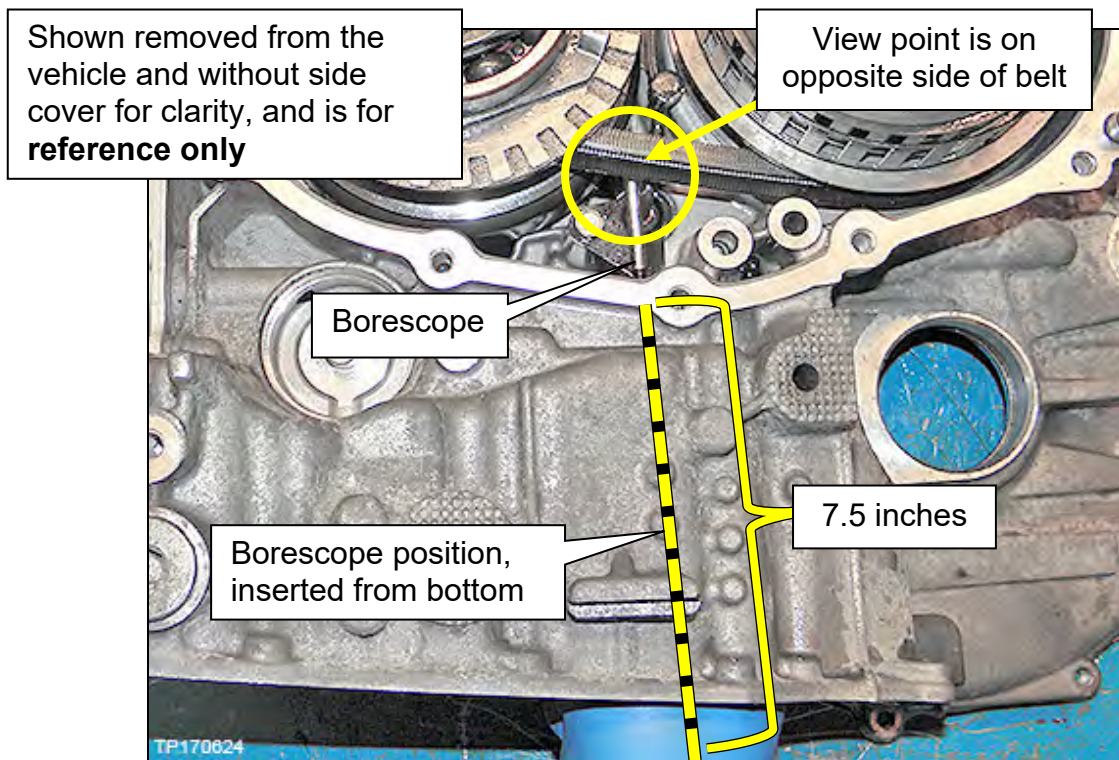

Figure 6C
- II. Insert the lens approximately 7.5 inches from the CVT oil pan gasket surface as shown in Figure 6C on page 18.